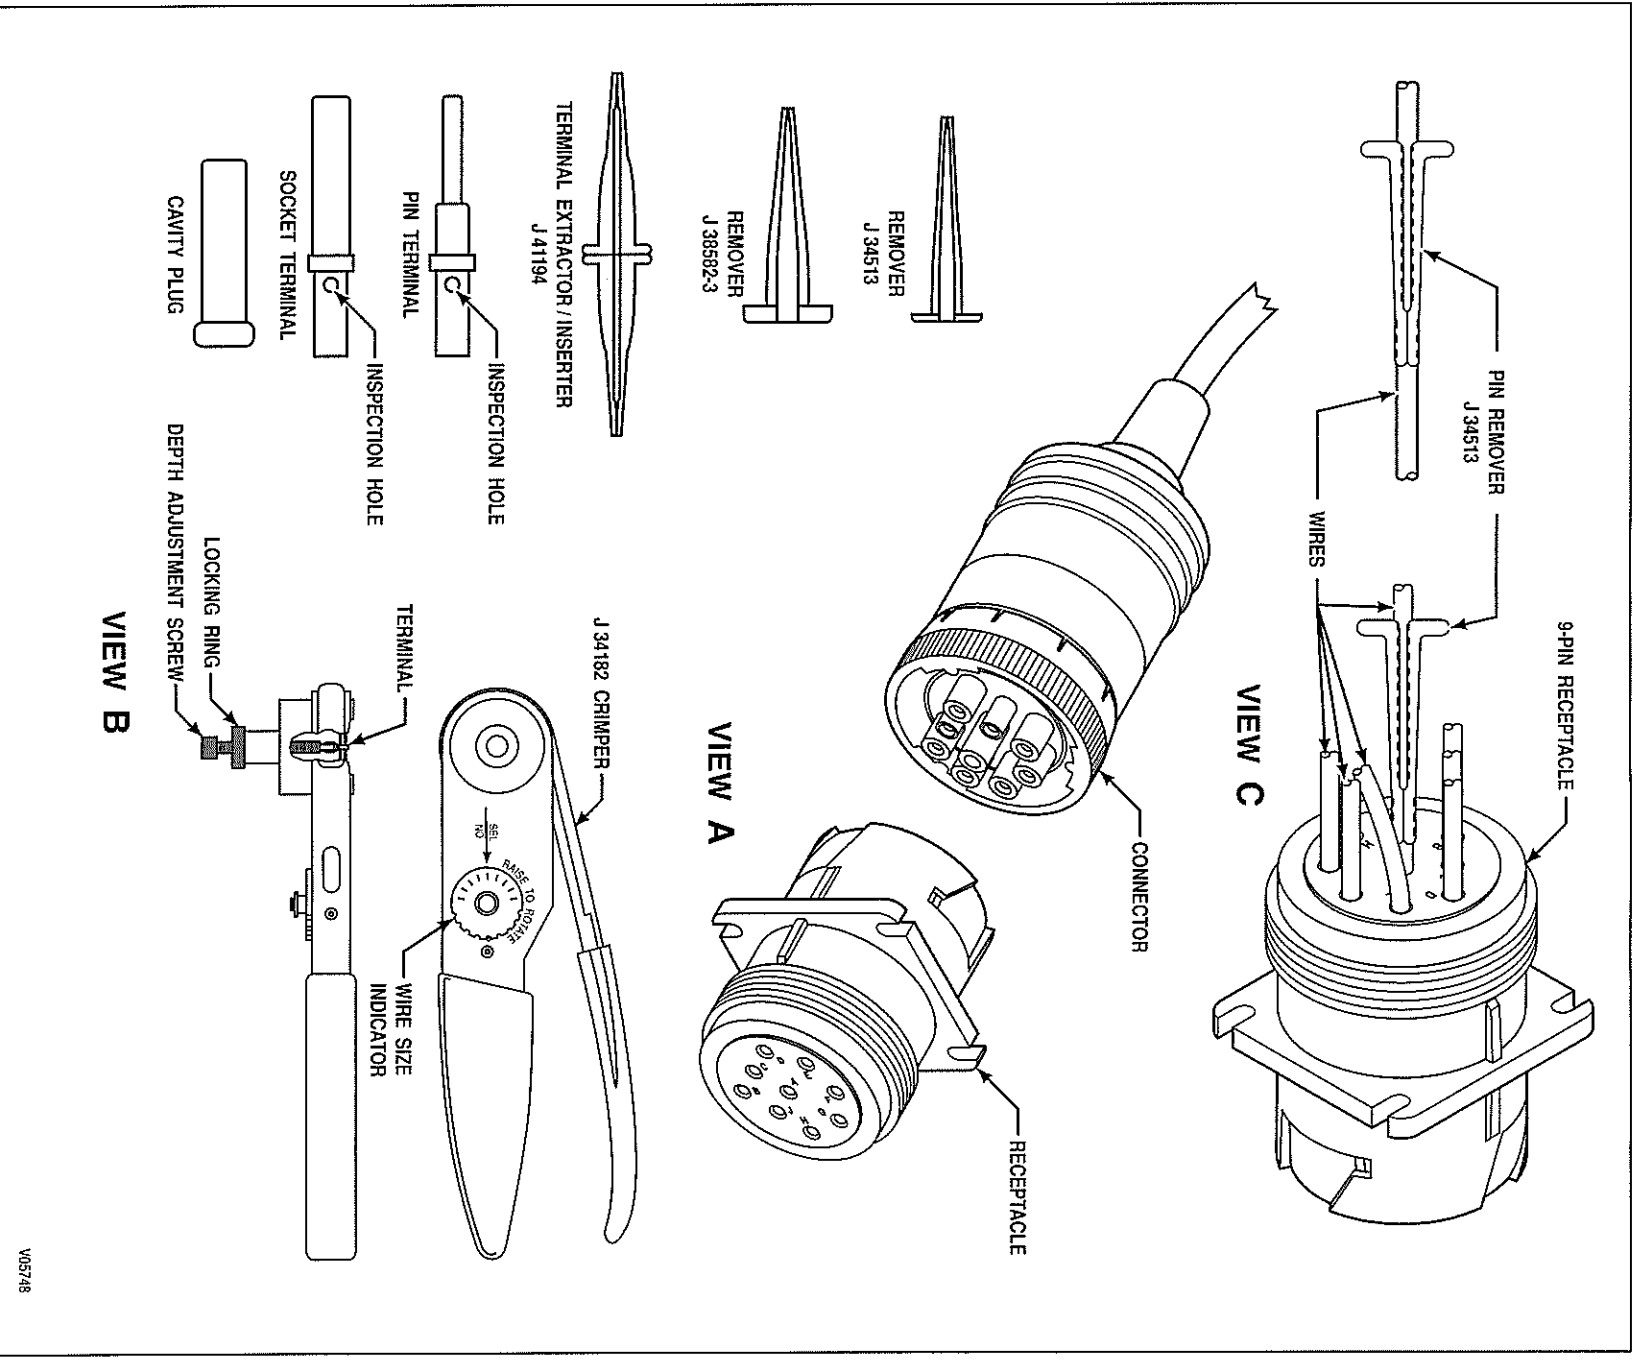

Figure E-13. Deutsch IPD/ECD Connectors (9-Way Optional Diagnostic Tool Connector)
B. Terminal Removal (Figure E-13, View A)
C. Terminal Crimping (Figure E-13, View B)